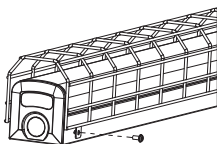

Fig 5
1. Align the mounting holes on the housing and wire guard, then screw in place as shown in Fig.5 .